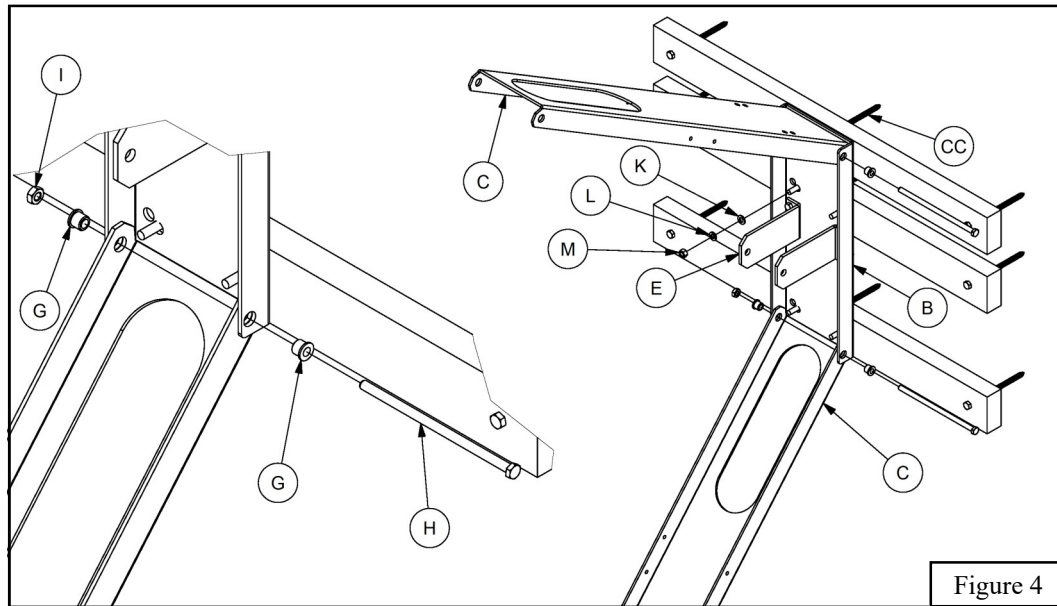

Figure 4
4. Mount the pole plate assembly to the three Wall Boards (A) using $3/8''$ Flat Washers (K), $3/8''$ Lock Washers (L) and $3/8''$ Hex Nuts (M). Tighten hardware when Pole Plate (B) is level.
5. Using two Pivot Bushings (G), $3/8'' \times 8''$ Hex Bolt (H) and $3/8''$ Thin Lock Nut (I) attach the lower Extension Channel (C) without the Extension Channel Brackets (F) to the Pole Plate (B). Note the location of the cutout in the Extension Channel (C). Tighten the $3/8''$ Thin Lock Nut (I) and then reverse $1/2$ turn to insure the Extension Channel (C) can move freely. See Figure 4.
**Note the visual difference between the $3/8''$ Thin Lock Nuts (I) and the $3/8''$ Hex Nuts (M).
6. Repeat the process in #5 above installing the upper *Extension Channel* (C) with the previously attached *Extension Channel Bracket* (F) to the top of the *Pole Plate* (B). See Figure 4.